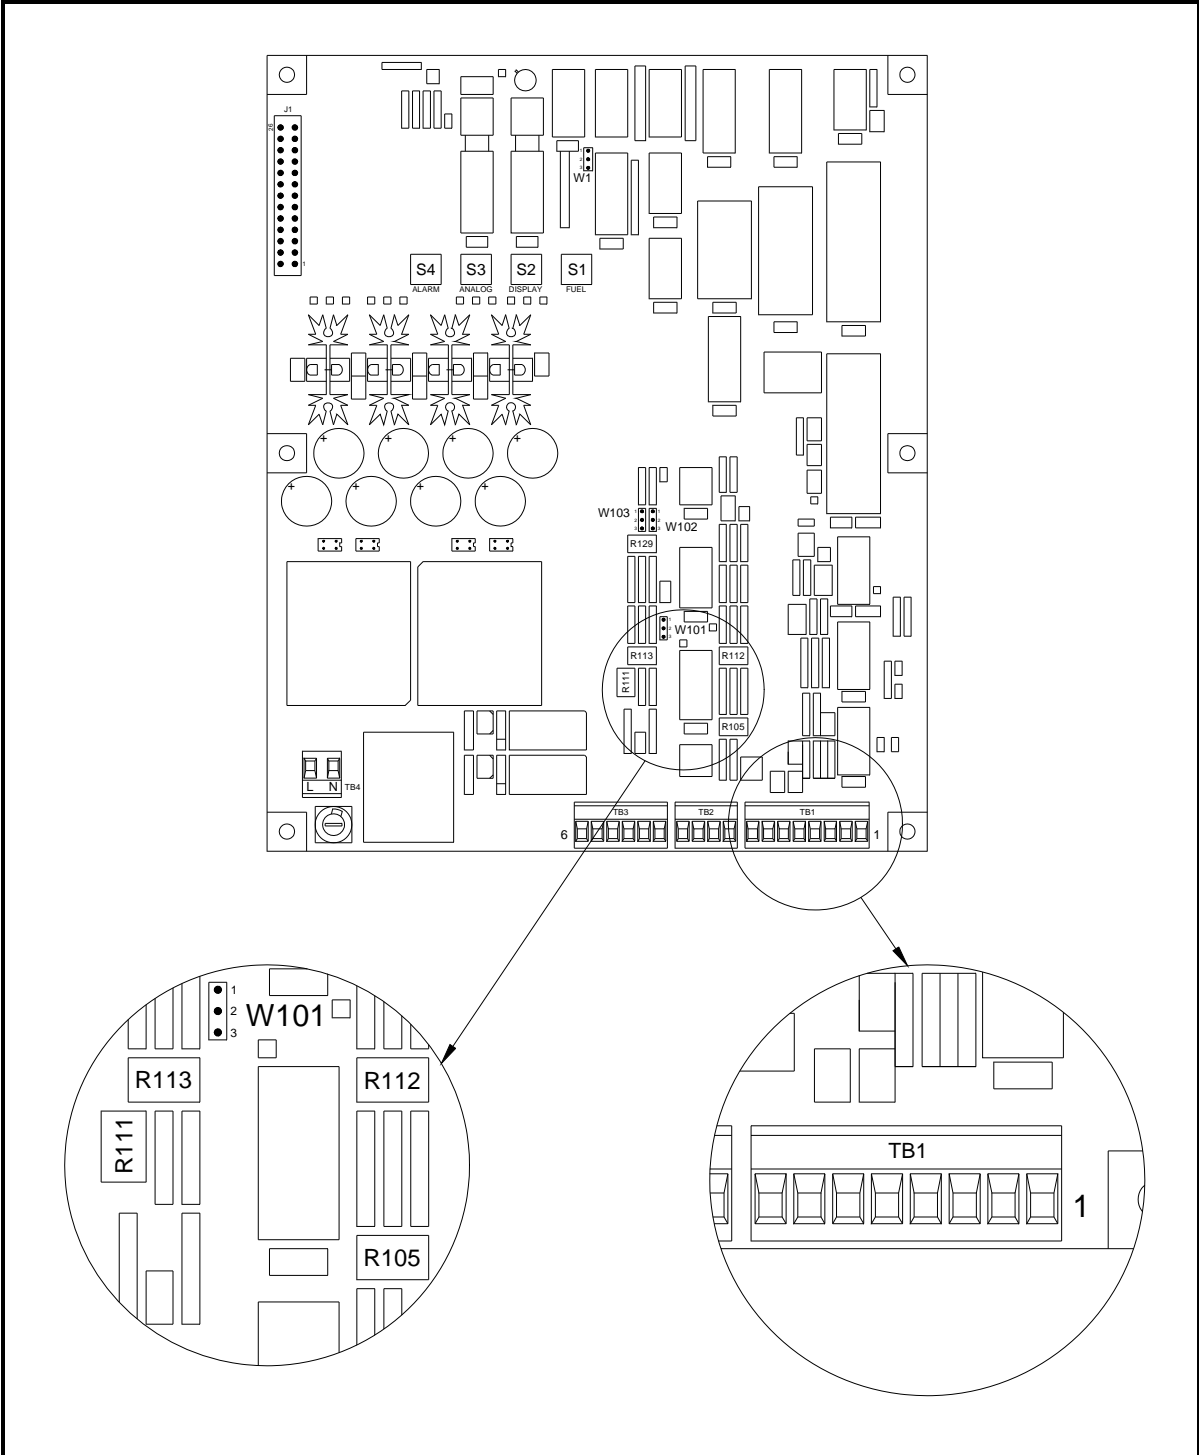

Figure 25: Display Electronics Console Circuit Board (Top View)
1. Locate terminal block TB1 in the Display Console (see Figure 25 on page 49).
If the 300D Display does not read 0 ppm_v, adjust the trimmer potentiometer R111 on the 300D Display printed circuit board. Since R111 is very sensitive, adjustments should be made in small increments. Refer to Figure 25 on page 49 for the location of R111, and adjust it in the appropriate direction:
If the reading is incorrect, adjust trimmer potentiometer R105 on the 300D Display printed circuit board. This adjustment is not as sensitive as the zero adjustment with R111, and the R105 adjustments may be made in larger increments. Refer to Figure 25 on page 49 for the location of R105, and adjust it in the appropriate direction: